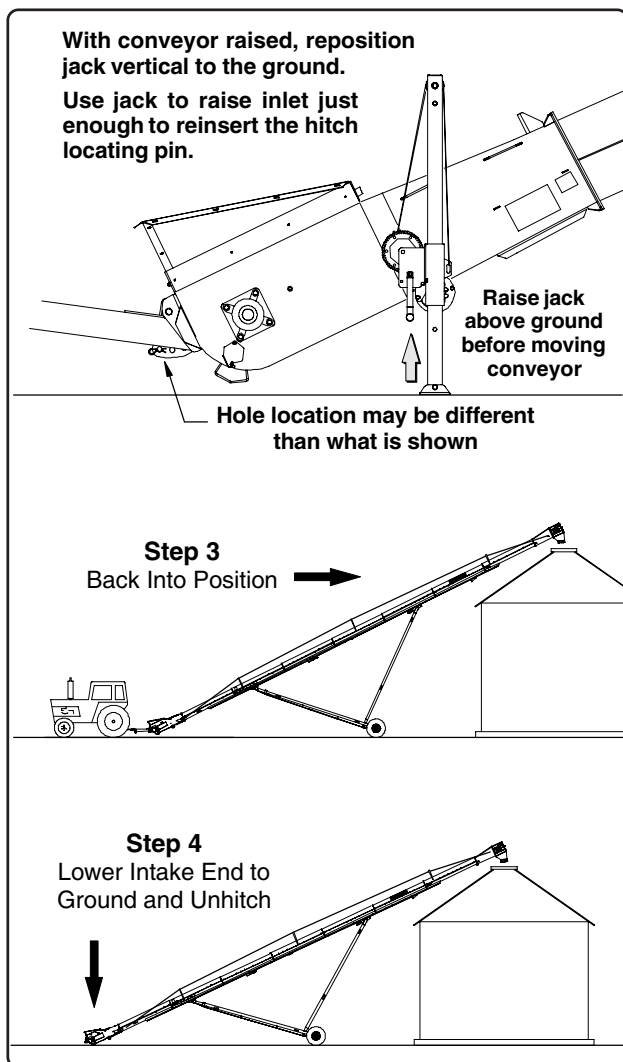

Fig. 7
1. After raising the inlet end off the ground, back the conveyor slowly into working position with the towing vehicle (See Fig. 7). **Never move the conveyor by hand, always use a vehicle.**
1. With the discharge directly over the opening, use the hitch jack to take pressure off of the hitch locating pin and remove the pin (See Fig. 7).